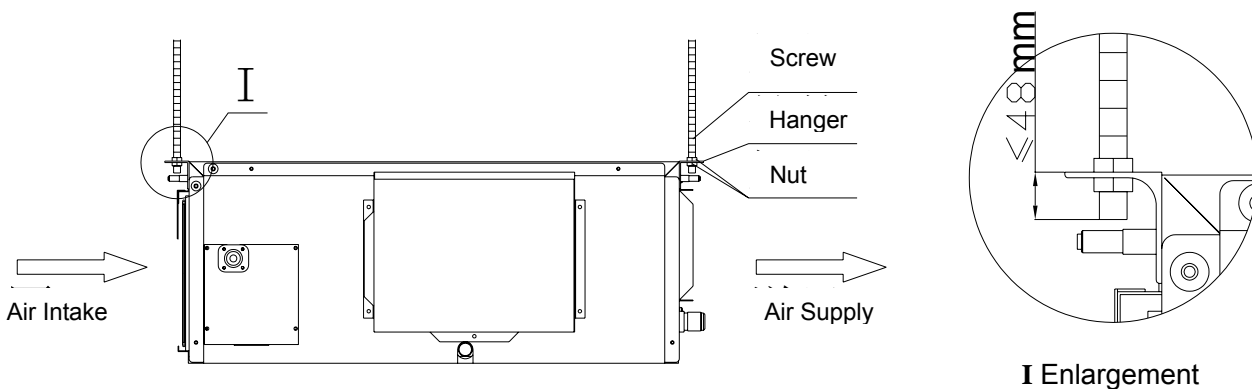

Fig. 6
- (3) Install the indoor unit at the ceiling as Figure 6 shows.